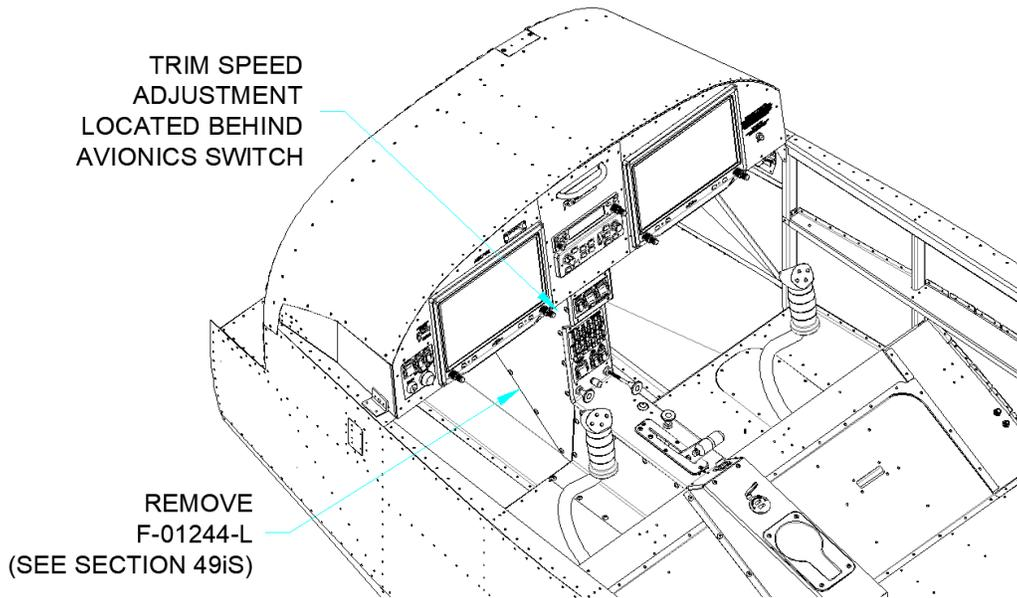
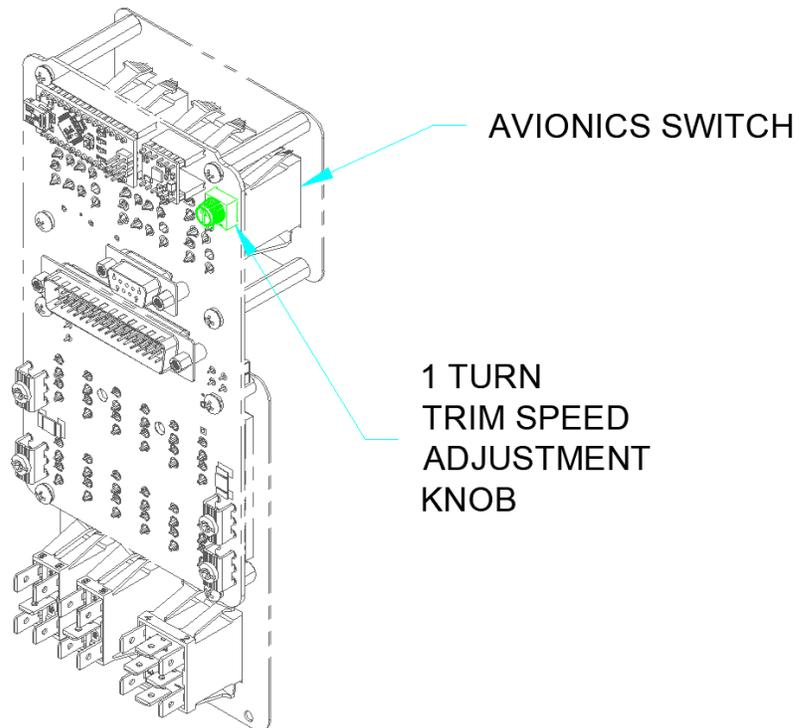

FIGURE 1: ACCESSING THE TRIM SPEED CONTROL KNOB
FIGURE 2: TRIM SPEED ADJUSTMENT KNOB LOCATION ON THE AFT SIDE OF THE AV-60000 POWER MODULE
- Adjust AV-60000 to set run time for the trim motor to be between 25 and 30 seconds. See Figure 1 and Figure 2 for the location of the 1-turn knob that allows adjustment of the trim speed.